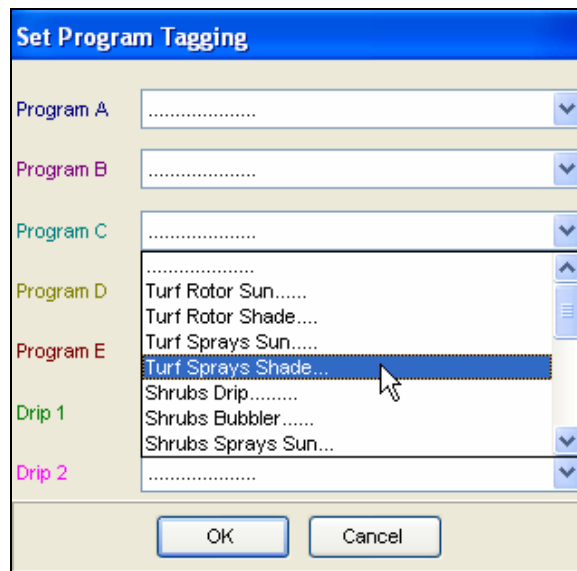

Figure 16.1.20B
14. By using the drop down arrow to the right you can choose a name for the selected program from a list provided (Figure 16.1.20B).